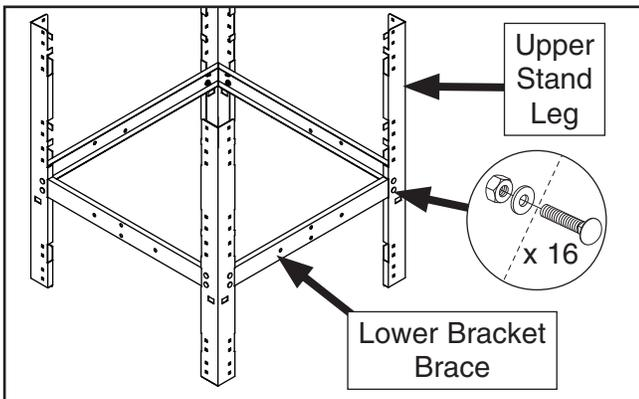

Figure 3. Initial assembly of upper stand legs connected to lower bracket braces.
1. Connect upper stand legs with lower bracket braces with (16) $\frac{5}{16}$ "-18 x $\frac{3}{4}$ " carriage bolts, $\frac{5}{16}$ " flat washers, and $\frac{5}{16}$ "-18 hex nuts (see **Figure 3**).
Note: Be sure to build frame using bolt holes indicated in **Figures 3–4** and **14**. Machine will not fit correctly on frame if wrong holes are used, and you will need to rebuild frame.